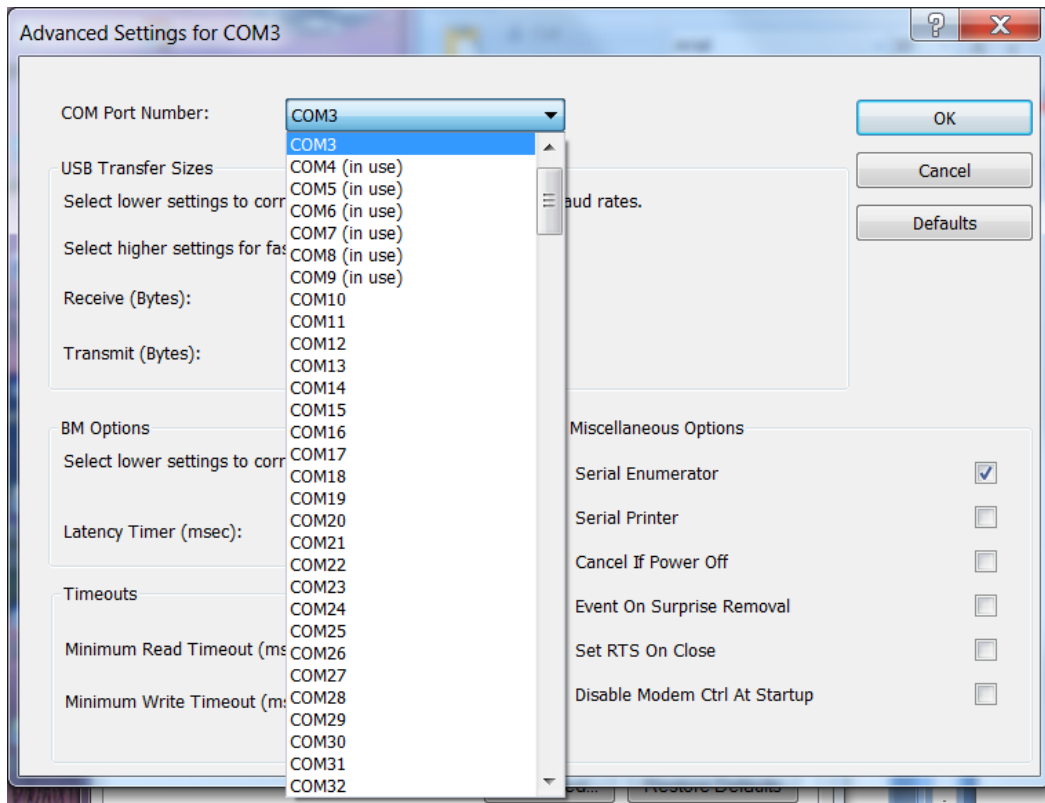

Figure 2-12: Advanced Properties
3. Click on Advanced (Figure 2-12).